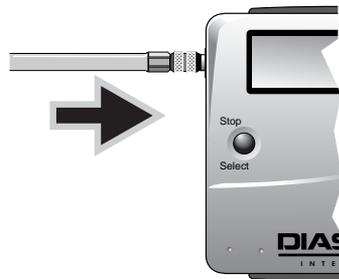

Fig 4 - Connection of the cuff to the Diasys
- Pass the tubing behind the patient’s neck and connect the cuff connector to the Diasys, preferably already in the protective pouch (fig 4).